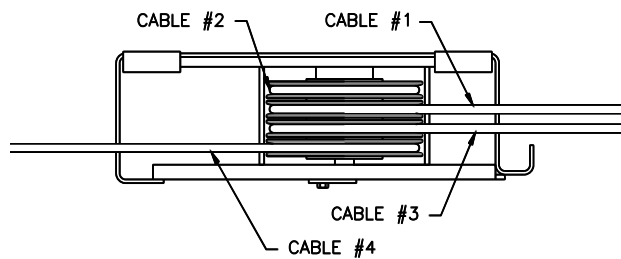

Fig 3 – Power Runway 4-Stack (rear view)
- Unpack lift. Remove all packaging from Power Runway (power runway has four cable sheaves at rear end) and pull threaded cable ends out. Make sure the cables are in the proper sheaves at the 4-stack, **Fig 3**.